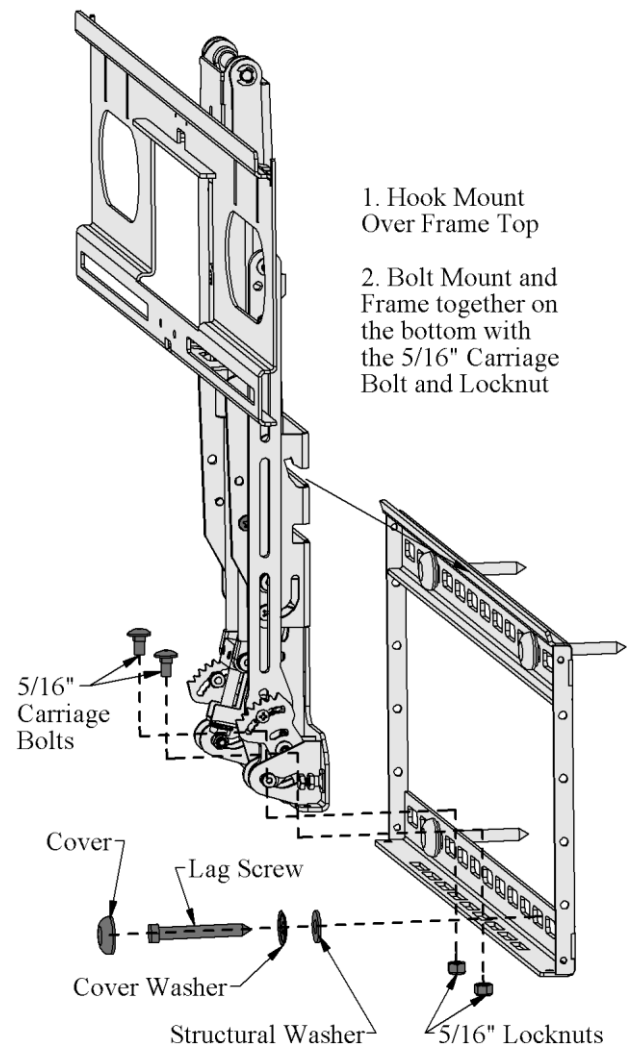

Figure 10, Frame Attach
4. Figure 10 shows the correct order to put on the lag screw.
1. Figure 10 shows how to attach the Mount to the Frame.